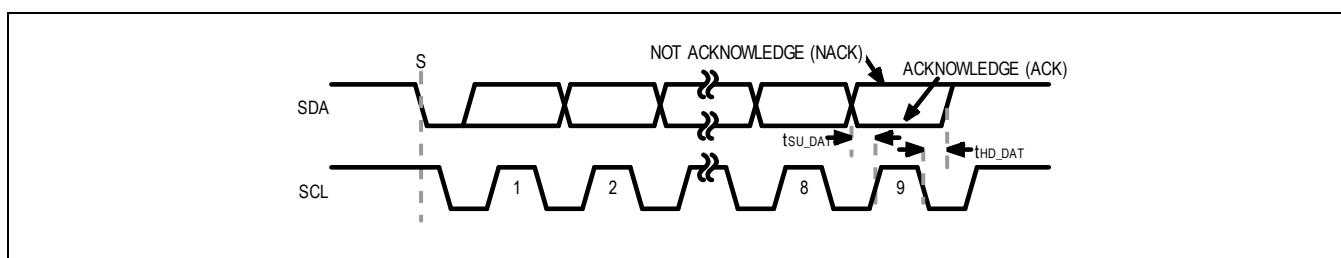

Figure 23. Acknowledge Bit
Both the I²C bus controller and devices generate acknowledge bits when receiving data. The acknowledge bit is the last bit of each ninth-bit data packet. To generate an acknowledgement (A), the receiving device must pull SDA low before the rising edge of the acknowledgement-related clock pulse (ninth pulse) and keep it low during the high period of the clock pulse. See Figure 23. To generate a not-acknowledge (nA), the receiving device allows SDA to be pulled high before the rising edge of the acknowledgement-related clock pulse and leaves it high during the high period of the clock pulse.